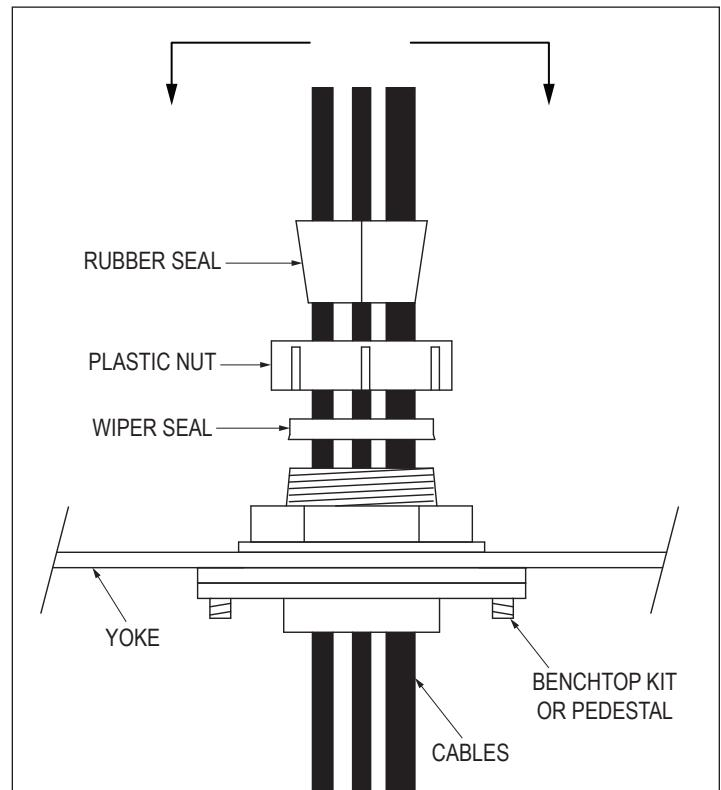

FIGURE 1
3. Refer to Figure 1. Install wiper seal into plastic nut and reinstall nut snugly onto pipe fitting.